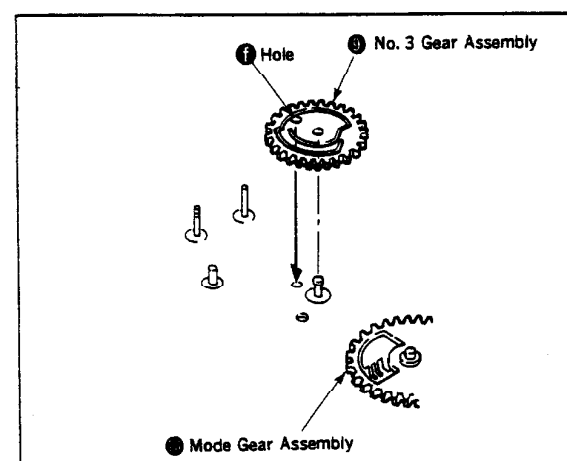

Fig. 33
- 6) Align the hole ㊴ of the No. 3 gear assembly ㊵ with the hole of the mechanical chassis, and at the same time, engage the mode gear assembly ㉔ with the gear to mount. (Fig. 33)